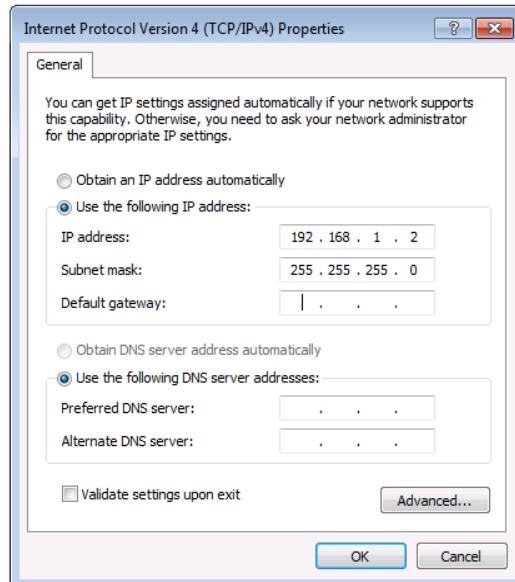

Figure 9: Internet Protocol Properties Window
- 6. Select **Use the following IP Address** for static IP addressing and fill in the details as shown in Figure 9.